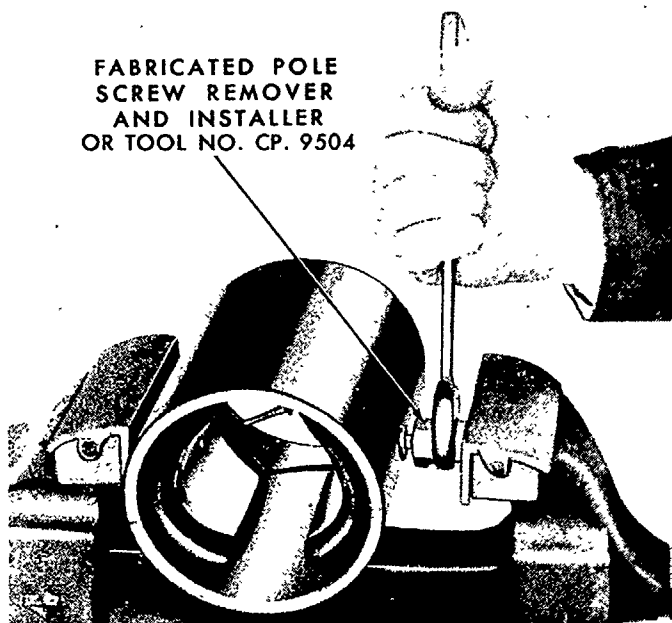

Figure 20
4. Loosen the pole shoe retaining screws, Figure 20; then remove the screws and withdraw the pole shoes and field coils from the frame.